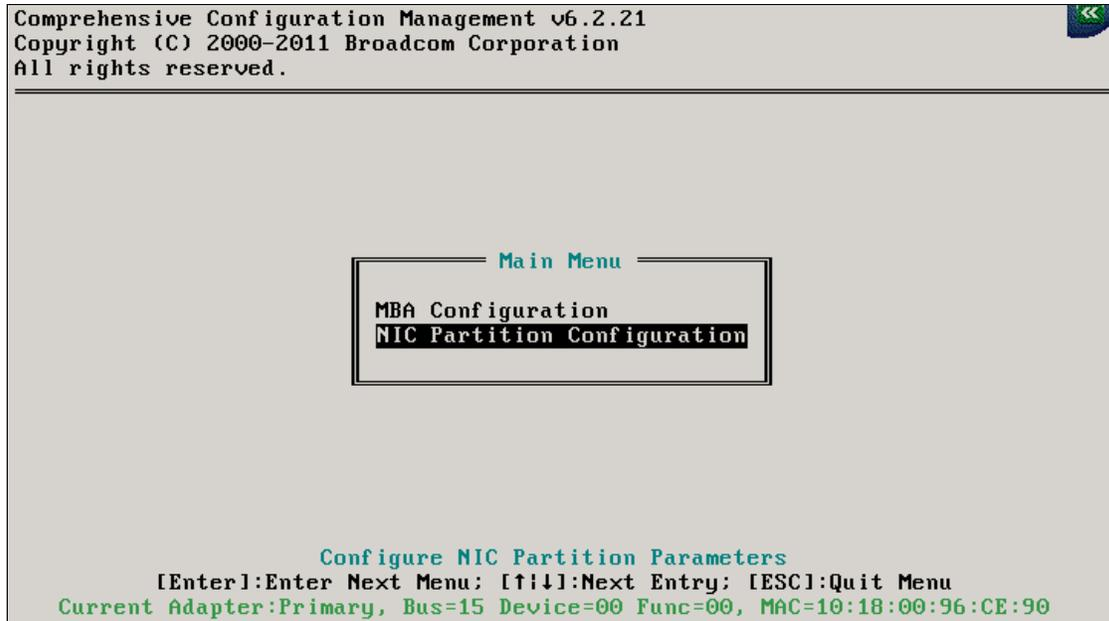

Figure 9-14 Device Main Menu panel
4. From the Main Menu panel (Figure 9-14), select **NIC Partition Configuration**, and then press Enter.